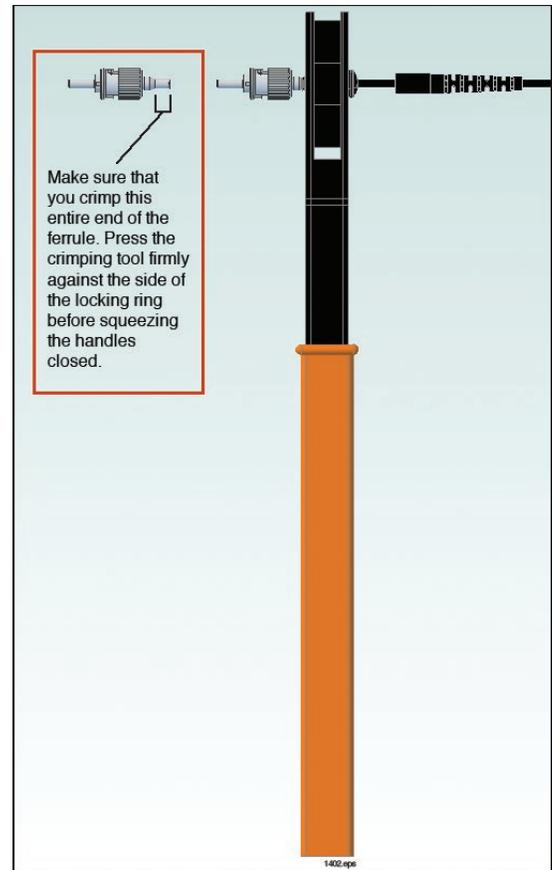

Figure 17. Position of the ST connector in crimper for proper crimp.
13. Place the large end of the ferrule in the 0.1 inch hex hole as shown in Figure 17 and slowly squeeze the handles of the crimp tool until the jaws just make contact with it. Do not apply any further pressure on the handles.